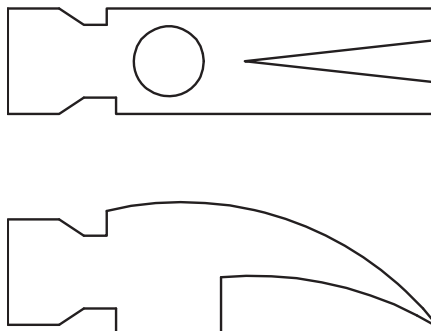

**Fig. 5-17**
8. Draw the screw heads shown in Fig. 5-17.